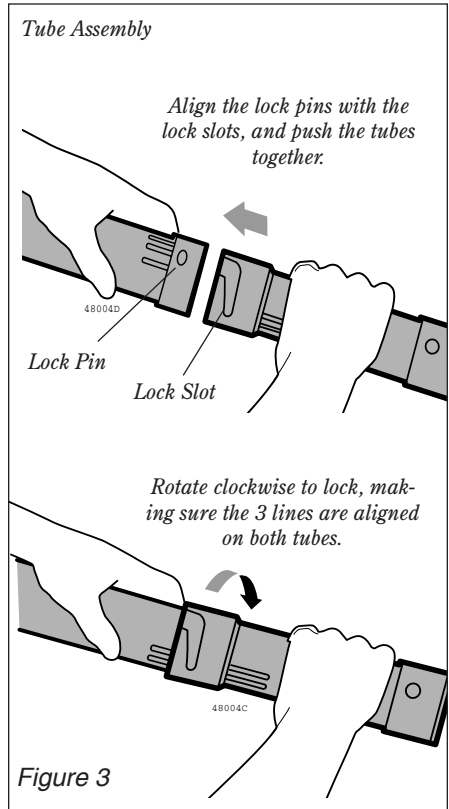

Figure 3
6. Grasp the straight tube as shown, and push the tube over the swivel tube locking pins (right). See figure 3.